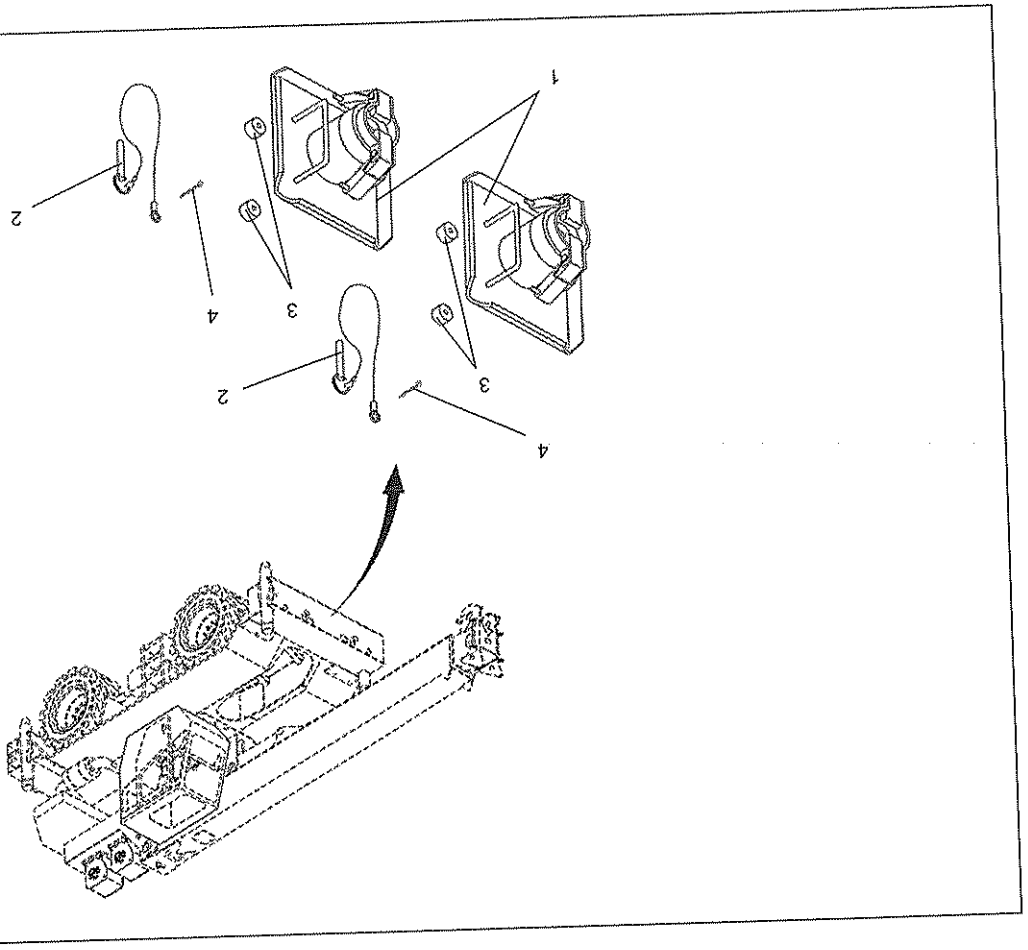

FIGURE 3-7
7. After all outriggers have been fully retracted, stow the outrigger floats (Figure 3-7).